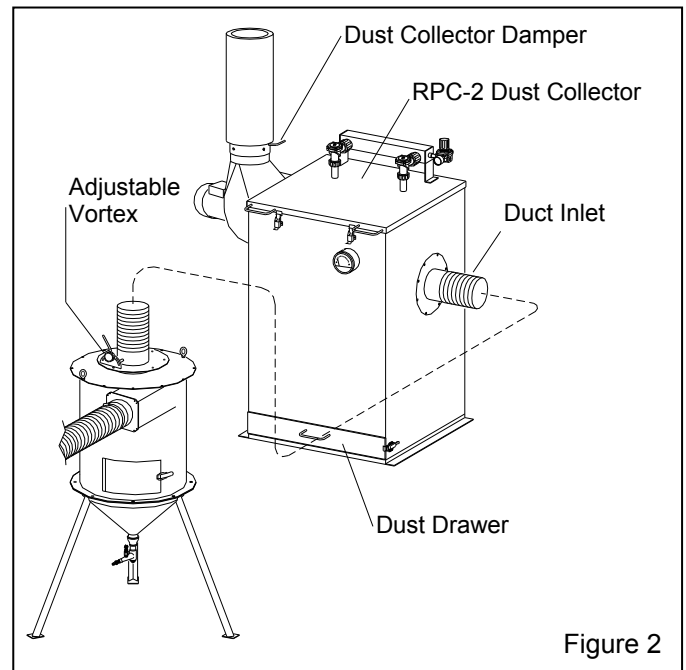
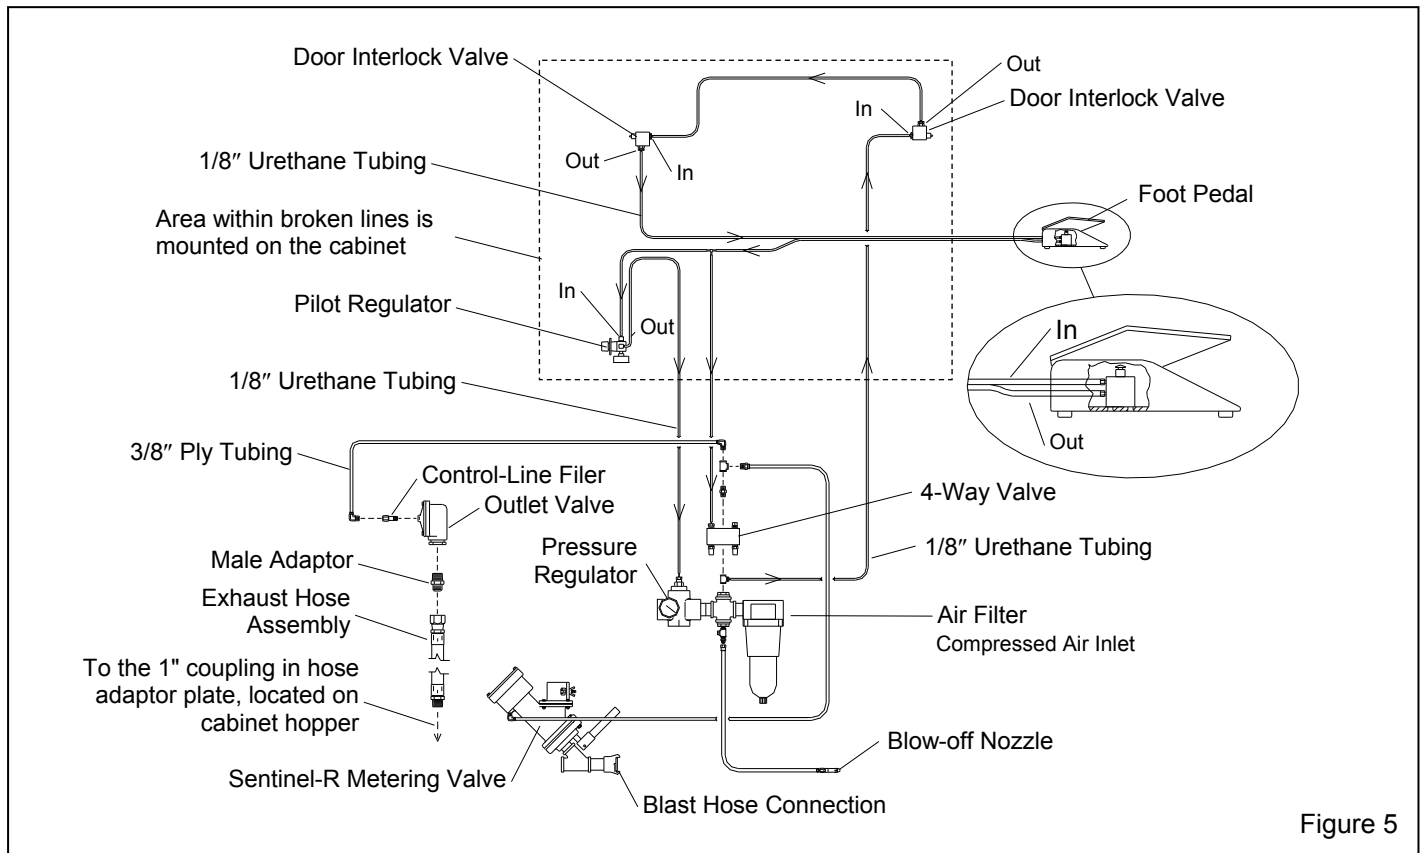

Figure 2
Figure 5
Refer to Figure 1 for arrangement of components with a CDC-1 dust collector. Figure 2 shows the arrangement with a RPC-2 reverse-pulse dust collector with dust drawer. The optional RPH-2 is set up the same way
1.6.2 RPC-2 Dust Collectors: Shown in Figure 2, this collector is available in 600 cfm and 900 cfm models. Dual filter cartridges are automatically cleaned by a timed, periodic pulse of compressed air. Dust collects in the drawer and must be frequently emptied. Refer to manual number 22788.
1.6.3 RPH-2 Dust Collector: The RPH-2 is available in 600 cfm and 900 cfm models. It is set up and operates the same as the RPC-2, as shown in Figure 2, but instead of a dust drawer, the collector sits atop a hopper, which provides additional dust storage, and empties into a drum. Refer to manual number 21449.
2.1.1 Refer to Figure 1 (and Figure 2 for optional reverse-pulse collector) for the general arrangement and Figure 5 for the control line schematic. Select a location where compressed air and electrical service are available. The cabinet location must comply with OSHA and local safety codes. Allow for full access to all doors and service areas and for efficient handling of large parts. Provide enough clearance in front of the dust collector to remove the dust drawer without tipping. Ideally, locate the blast machine directly behind the cabinet with the blast hose connection toward the cabinet. The reclaimer may be rotated on the blast machine to make hose connections with as few bends as possible. Determine the best location for all components and position them before making compressed air connections, electrical connections, and attaching flex hose.
2.5.1 Attach the 1/2" blow-off hose coming from the cabinet hopper, to the compatible fitting on the blast machine piping, between the air filter and pressure regulator. Refer to the schematic in Figure 5.
2.8.1 Uncoil the 1/8" urethane control tubing. The end of each tubing is numbered 1, 2 or 3. Connect the tubing to the adaptor with the corresponding number on the pressure regulator, piping, and 4-way air valve. Refer to the schematic in Figure 5 to confirm the connections.